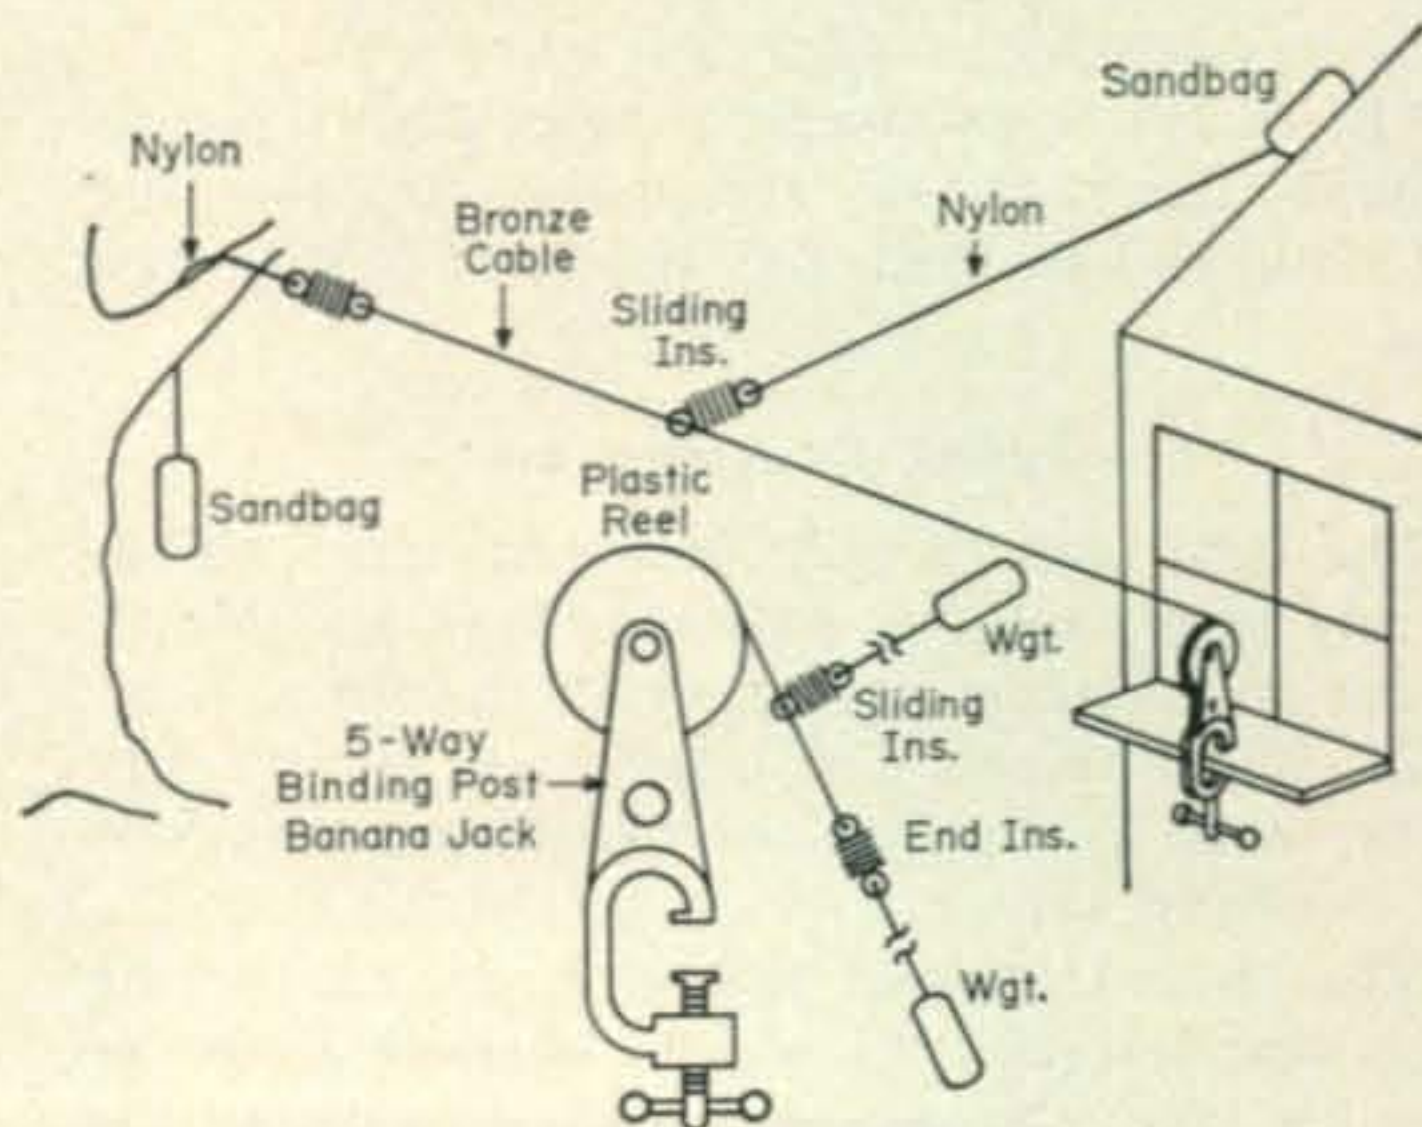

Fig. 3—Construction and typical installation for the long wire antenna.
- 1—Long wire antenna (fig. 3)